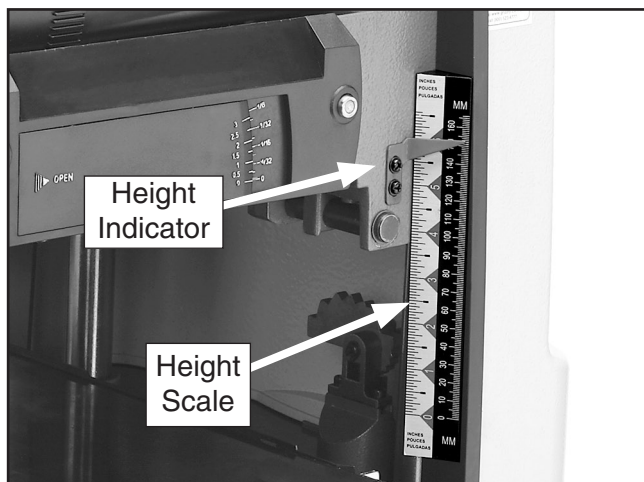

Figure 12. Headstock height scale.
2. Check the height scale at the front of the planer/moulder, shown in **Figure 12**, to ensure headstock height accuracy.